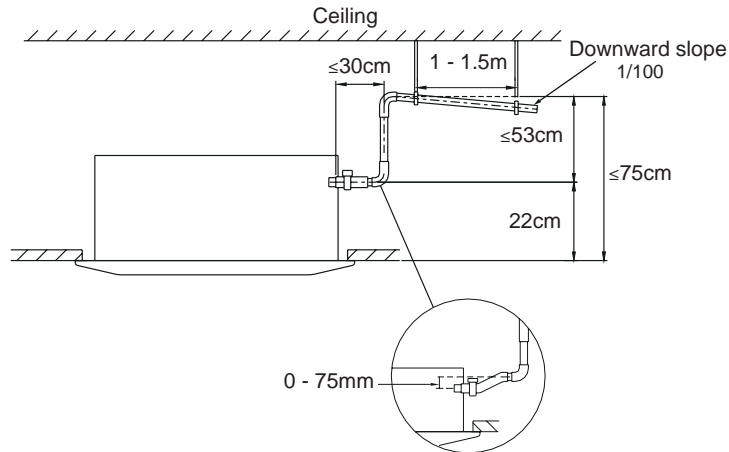

Figure 6.
- To prevent air bubbles, keep the drain hose level or slightly tilted up (<75mm). See Figure 6.